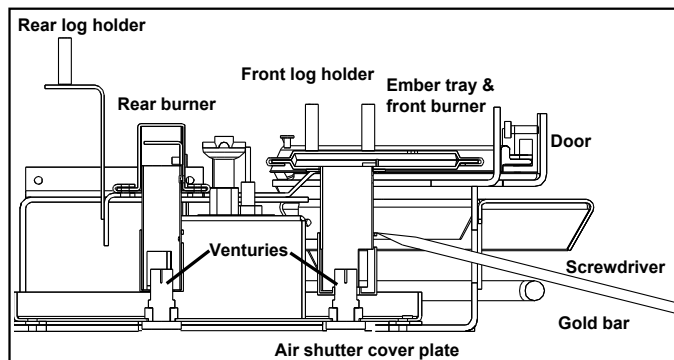

Figure 29: Venturi Adjustment.
- There is a separate venturies for each burner, see Figure 29.